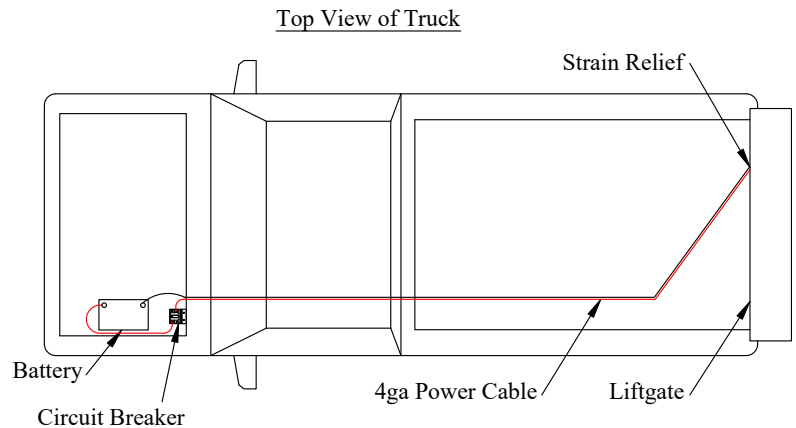

Figure 15: Electrical routing.
3. **Loosen** the strain relief on the back of the liftgate mainframe (Figure 15).
4. Pull the power cable (coiled up in the liftgate mainframe) carefully through the strain relief. Leave approximately two (2) inches of slack inside the liftgate mainframe (Figure 15).
6. Route the power cables along the frame (Figure 15) to the battery following the *Tommy Gate Recommended Electrical Wiring Guidelines*.